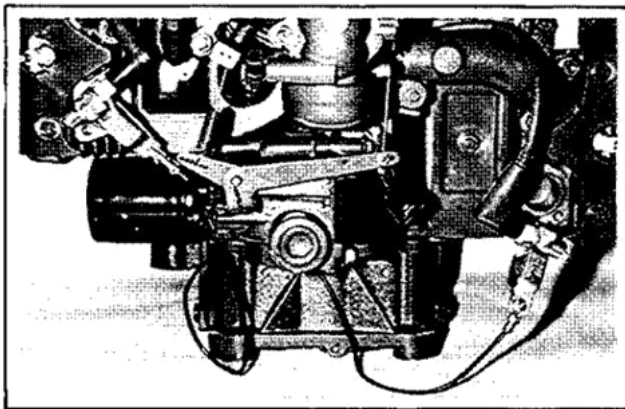

Figure 8-2. Ignition System Tester.
3. Check ignition module using test plugs (refer to the "Special Tools" section and Figure 8-2.) a. Remove the high-tension leads from the engine spark plugs, and connect them to the test plugs. NOTE: To maintain engine speeds normally obtained during cranking, do not remove the engine spark plugs. b. Make sure the engine ignition switch (kill switch) and/or keyswitch are in the "run" position. c. Crank the engine and observe the test plugs. Visible and audible sparks should be produced.	If visible and audible sparks ARE produced, the ignition module is OK. If visible and audible sparks ARE NOT produced: a. Make sure engine ignition switch and/or keyswitch are in the "run" position. b. Check wires and terminals of ignition module and other components for accidental grounding and/or damaged insulation. c. If wires and terminals are OK, the ignition module is probably faulty and should be replaced. Test module further using an ohmmeter (Test 4).